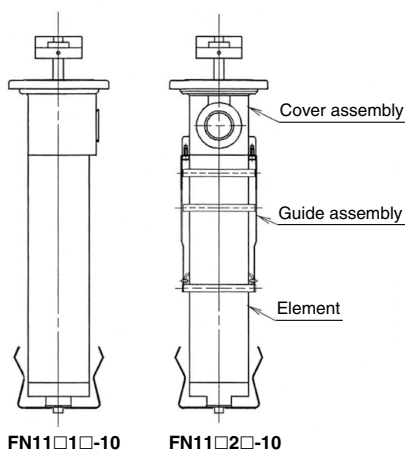

Fig. 3
- 2-4. Pull the cover assembly upward. [Pull out the entire body of the element. See Fig. 3]